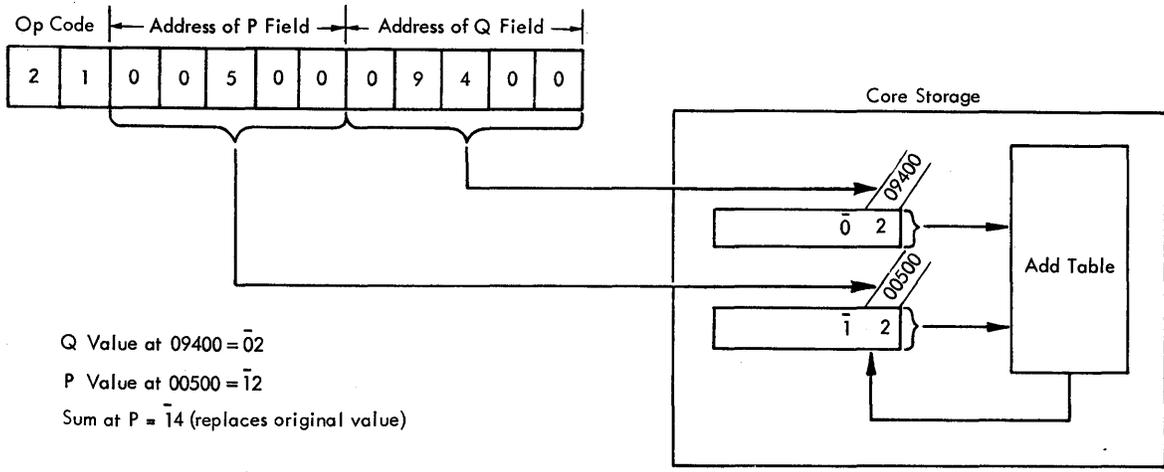

Figure 12. Add Instructions - Data Flow
In Figure 12, the sum (14) is "looked up" in the Add table and replaces the 12 at 00500 (P address). The field mark remains at the high-order position. When the sum is zero, the sign of the P field is re-
Description. The description is the same as that for Add (A-21) except that the data in the Q part of the instruction is used as the Q data. For example, if the Op code were 11 in Figure 12, the Q data would be $\bar{0}9400$ and the result would be 12 ($00 + \bar{1}2$). The three high-order positions of the Q data ($\bar{0}94$) are not used because the P-data flag bit (above the one in 12) stops the add operation. The Arithmetic Check indicator is turned on because the Q data field ($\bar{0}9400$) exceed the two digits of data ($\bar{1}2$) contained in the field defined by the P address (00500).